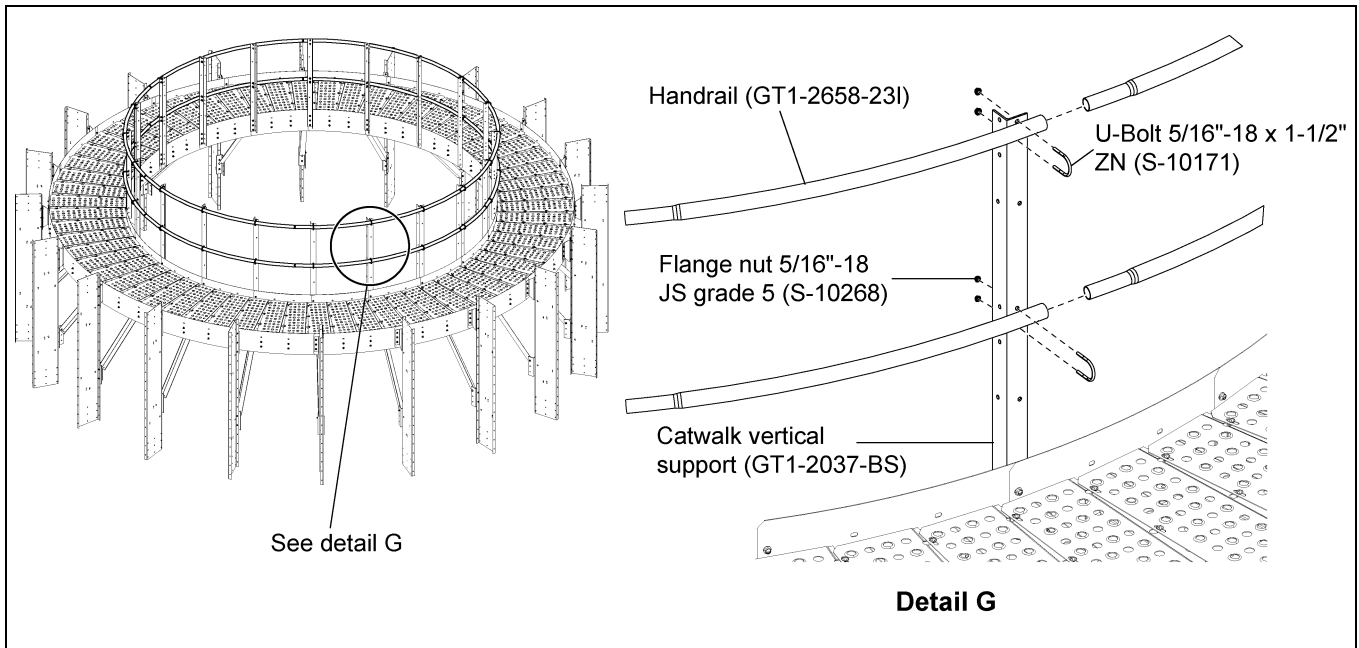
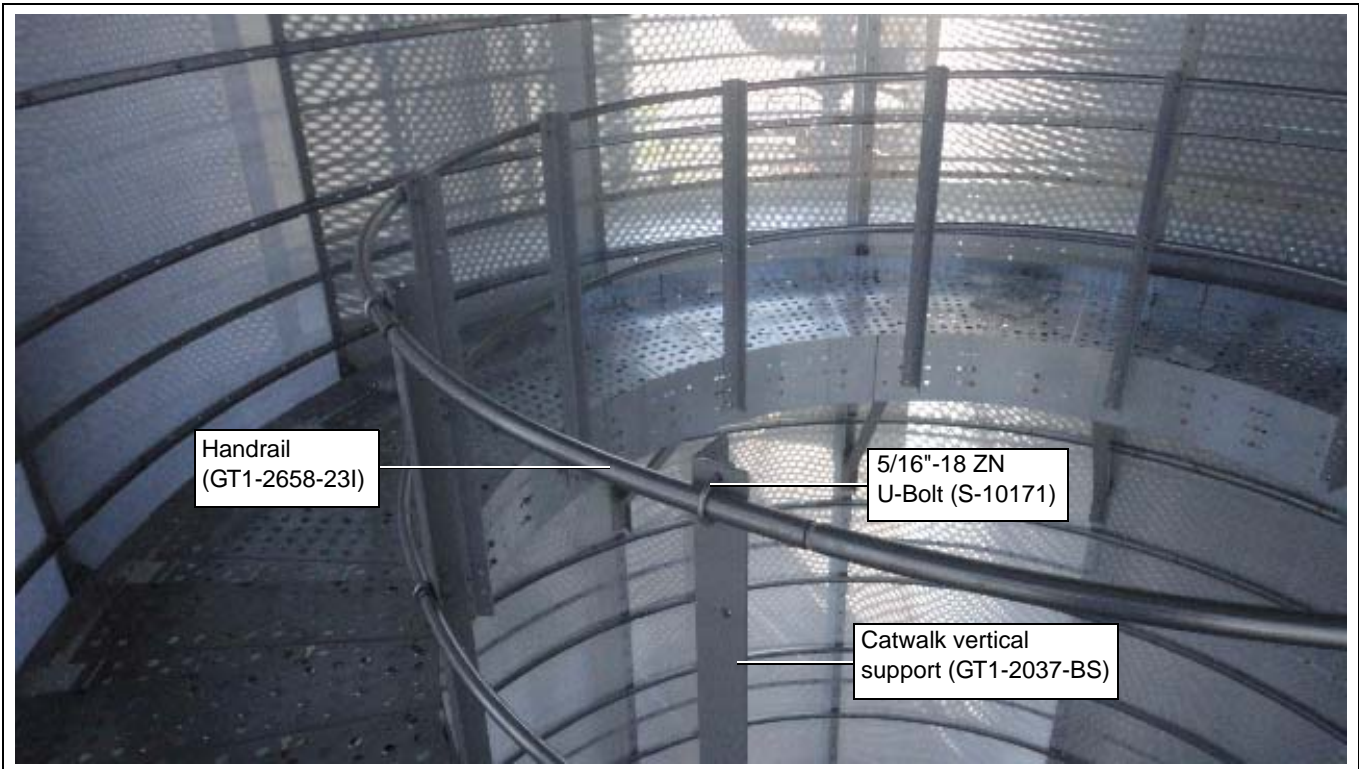

Figure 5L
Figure 5M
1. Install the handrail (GT1-2658-23I) to the catwalk vertical support (GT1-2037-BS) using 5/16"-18 ZN U-bolts (S-10171) and 5/16"-18 JS grade 5 nuts (S-10268) to tighten the handrail with vertical post. (See Figure 5L and Figure 5M.)